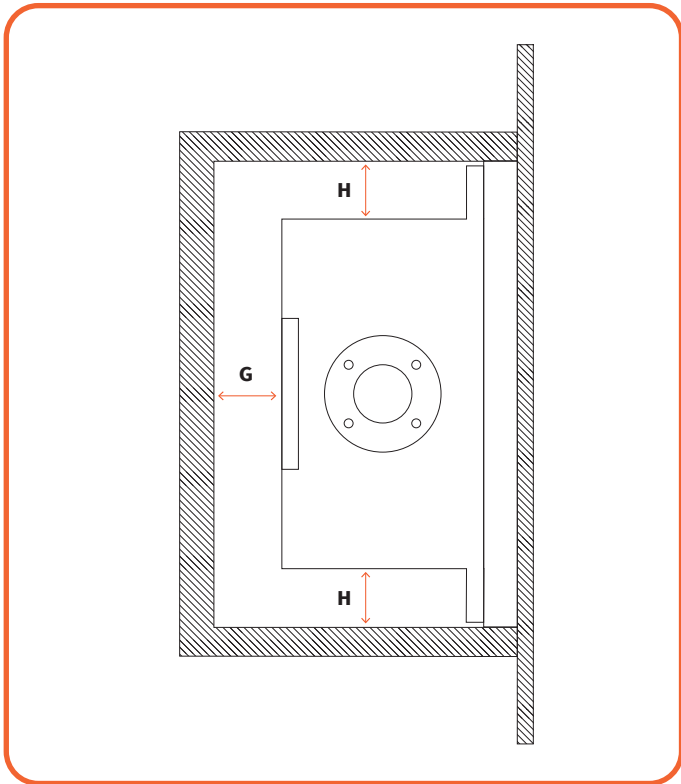
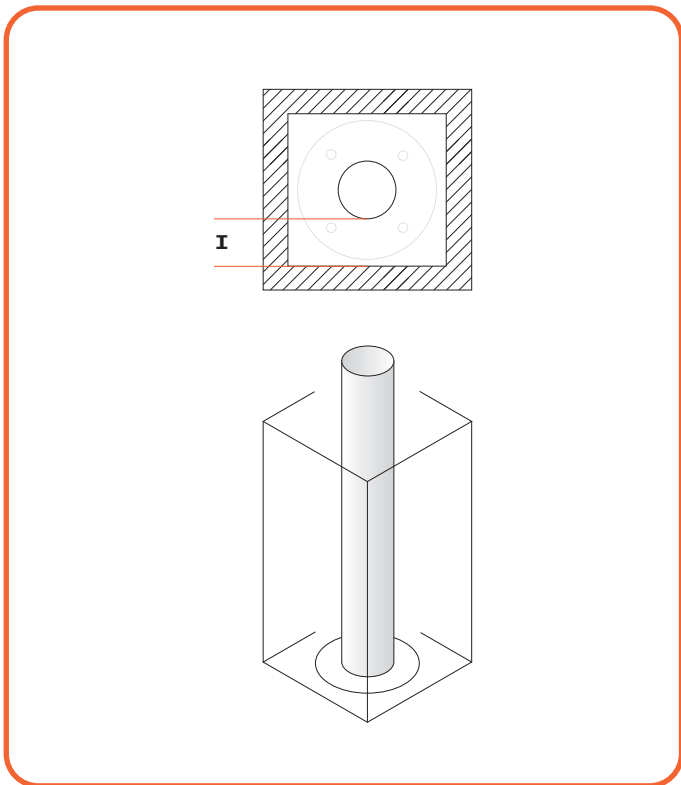

Figure 6.2 - Top view of the fireplace installed in the chimney
Figure 6.3 - Area around the flue pipe.
The appliance should be fitted with a minimum clearance of 100mm (**G** in **figure 6.2**) from any combustible objects or materials; this includes any combustible materials used for the fireplace construction. This clearance distance can be reduced to 50mm if a cement Board, e.g. promatec, of minimum thickness 12mm is used. This cement board will act as a thermal break. The clearance distance of the flue from combustibles must not be less than 75mm (**I** in **figure 6.3**). Cement board can be used directly against the Frame Face on the appliance.
- Keep a distance of at least 5 mm between the outside of the pipes and the wall or ceiling (**Figure 6.3**).